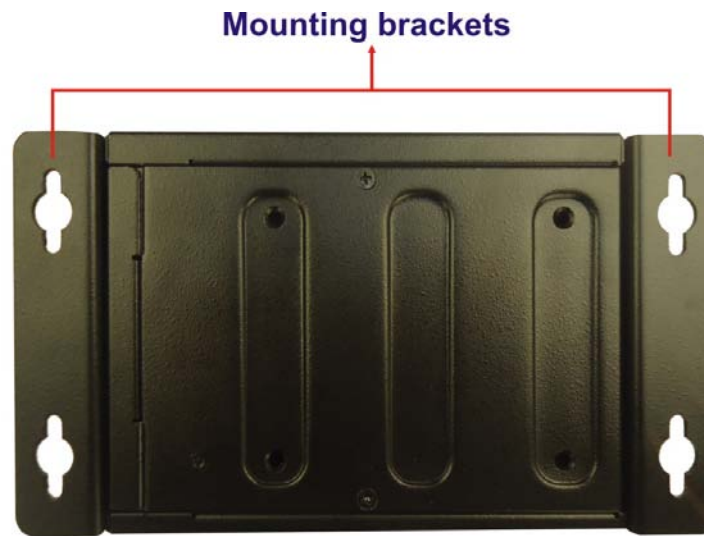

Figure 3-15: Mounting Bracket
- Step 3: Secure the brackets to the system by inserting two retention screws into each bracket as illustrated in **Figure 3-15**.